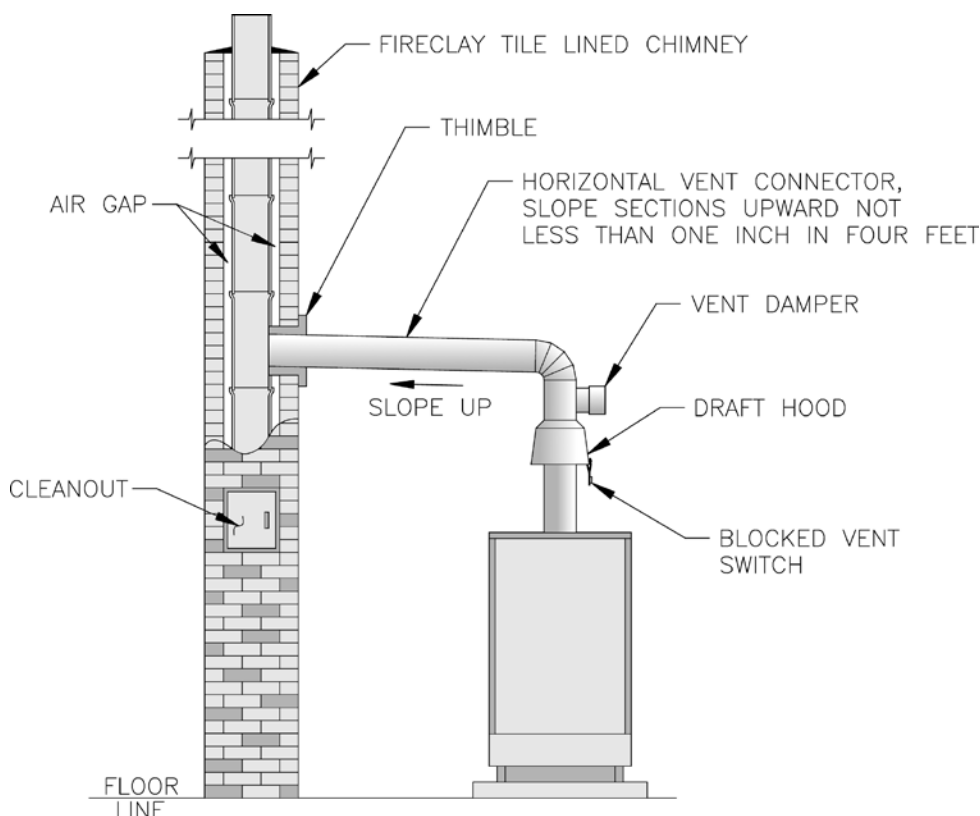

Figure 25: Typical Vent System
F. Install Vent Connector from draft hood or vent damper to chimney. See Figure 25.